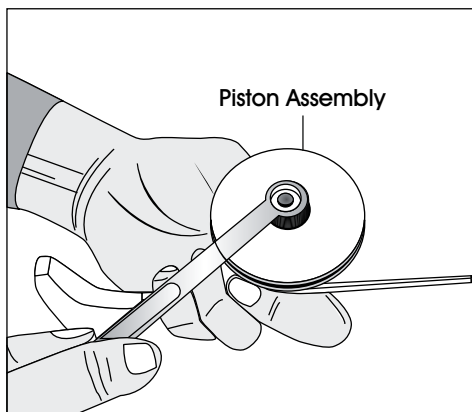

Figure 35
8. Remove the piston assembly with a 10 mm spanner wrench. (See Figure 35)